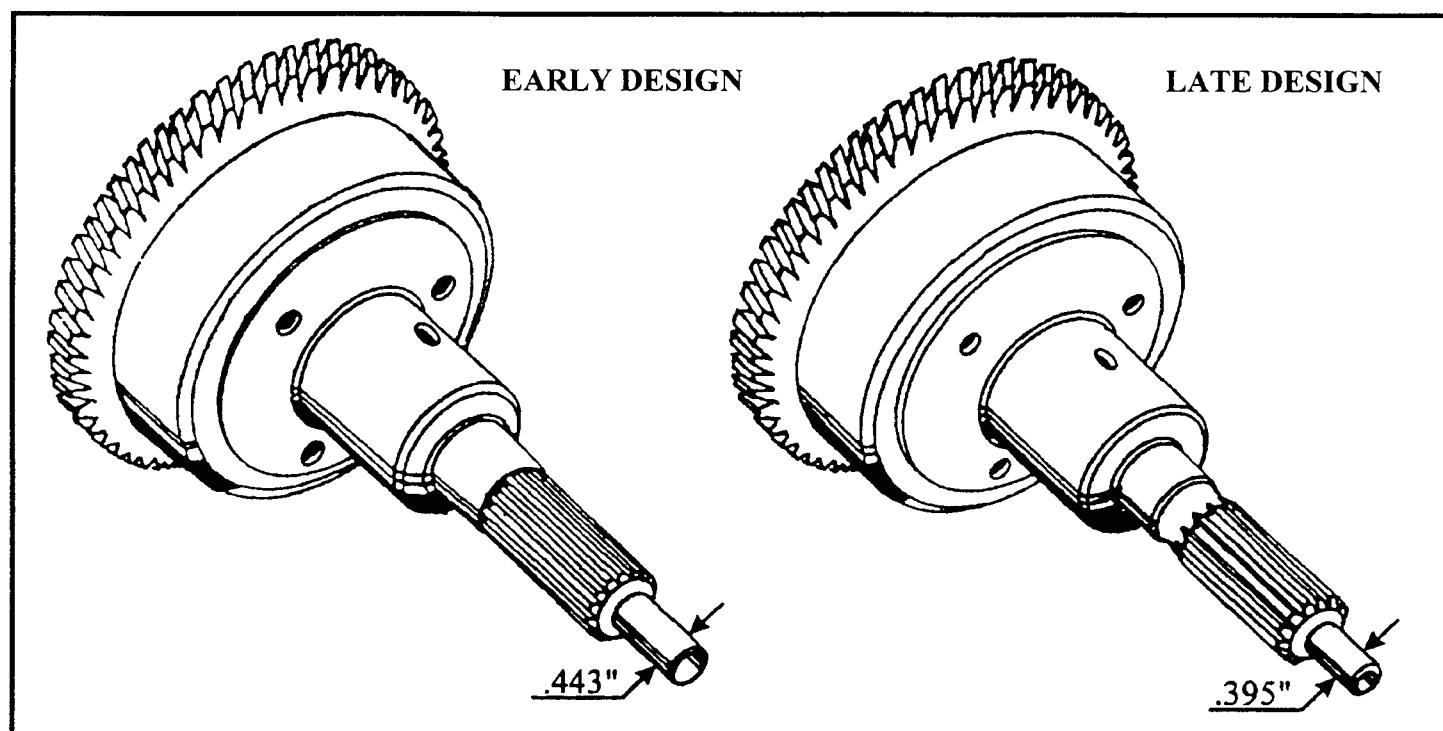

Figure 25
- (1) O.D. CENTER SHAFT - The diameter of the pilot on the shaft was machined .048" smaller than the previous design, to accommodate the bearing added to the output shaft. The new design pilot diameter is .395", and the previous design pilot diameter is .443". (See Figure 25)